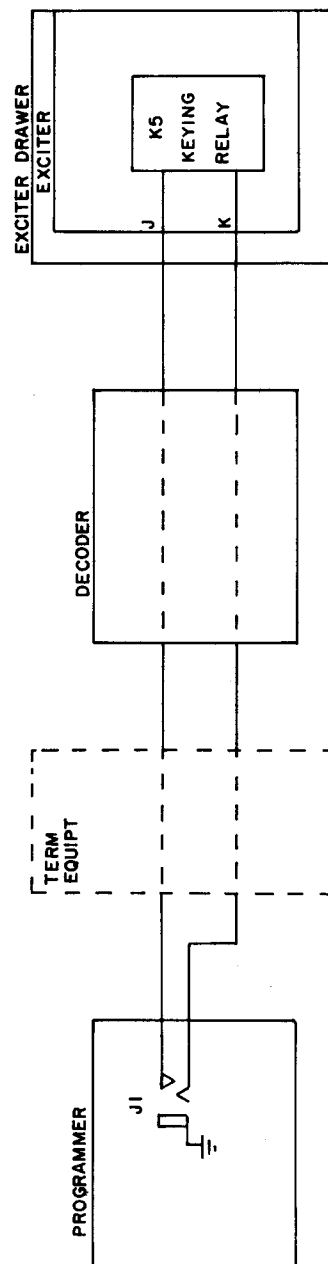

Figure 3-3. Keying Circuit
c. REMOTE KEYING OPERATION (Refer to Figure 3-3 ). - A keying unit is provided for on the Programmer front panel by jack J1. When an external keying unit is plugged into jack J1 a 20 ma circuit extends from the Programmer to the teletype terminal equipment through the Decoder to key relay K5 in the exciter.